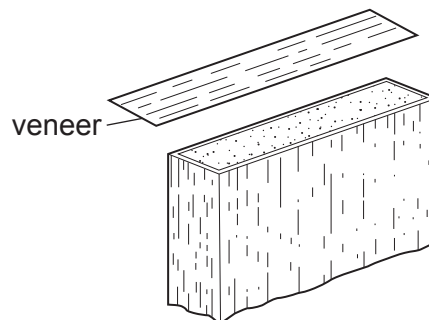

Fig. 2.1
- 2 Fig. 2.1 shows part of a manufactured board. The board will be covered with a veneer.